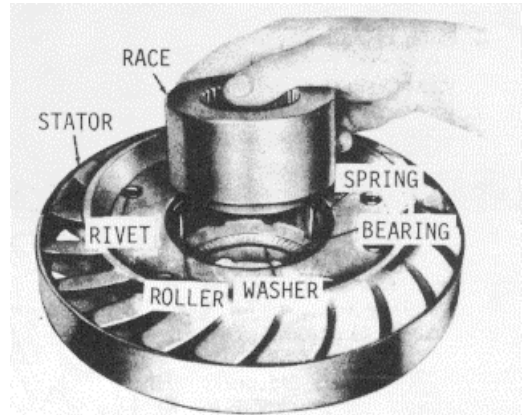

Fig. 23
- (c) Install washer and bearing, roller side up, into stator. Install stator race into stator (Fig. 23).